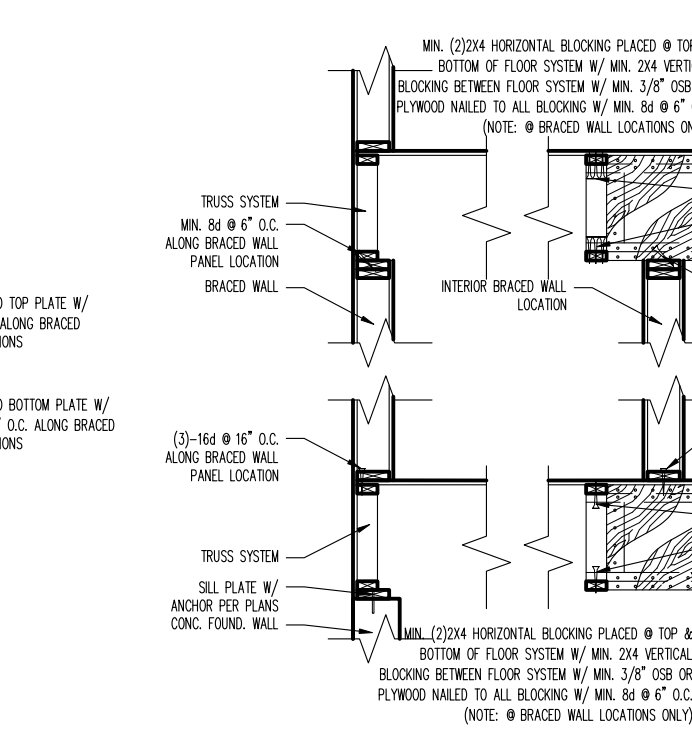

FIGURE 6
9. NOTE: NOTES 7 & 8 ABOVE APPLY TO PERPENDICULAR FRAMING, WHEN PARALLEL FLOORS/ROOF SYSTEMS ARE PRESENT, THE FLOOR/ROOF SYSTEM IS TO HAVE BLOCKING MATERIAL ALLOWING FOR NAILING OF BRACED WALL PANEL INTO SYSTEM ABOVE/BELOW SAID WALL (FIGURE 6).